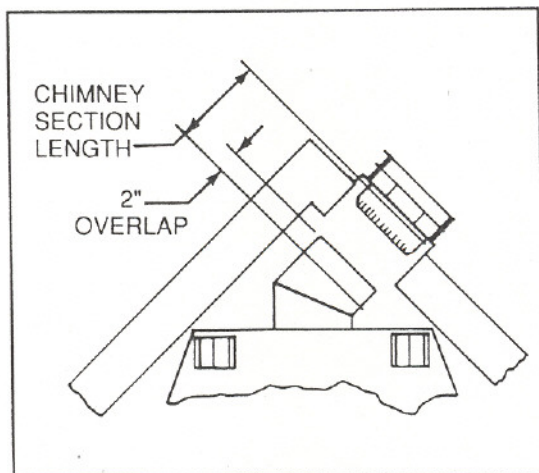

Figure 7
If the wall thickness is 4 1/2", no other sections are required. For thicker walls, slide the next section onto the first section until proper length is attained as shown in Figure 7 and Table 2. A 2" overlap must be maintained, and the pipe sections must be drilled and screwed in (3) places. Proceed to STEP 6.